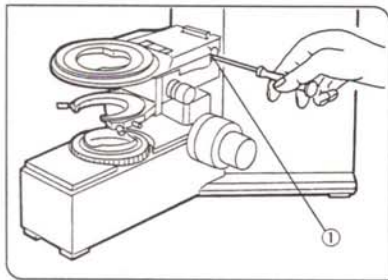

Fig. 25
### 4 Stage Height Adjustment (Figs. 25,26)
2. Loosen the stage bracket clamping screw ① and remove the stage bracket. (Fig. 25)